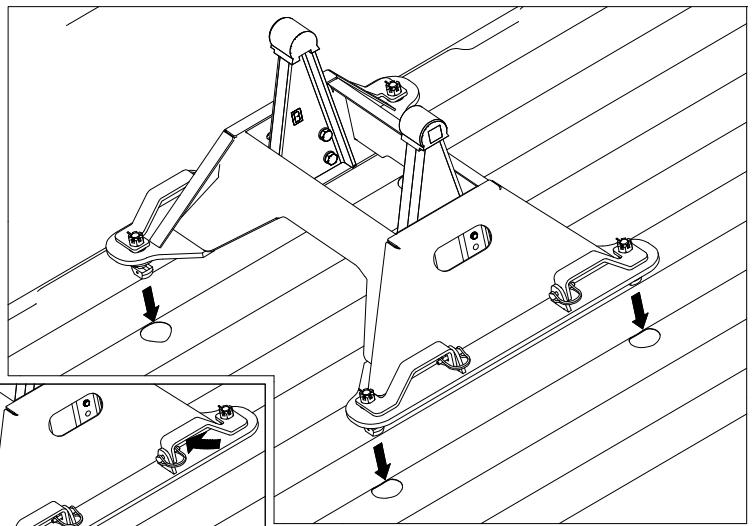

Figure C1:
- Place Base.** Remove the latch pins from each side of the base and rotate the handles out, see Figure C1. Place the base over the attachment points and carefully lower it until the latch cams pass through the floor and the base rests flat against the top of the attachment points.